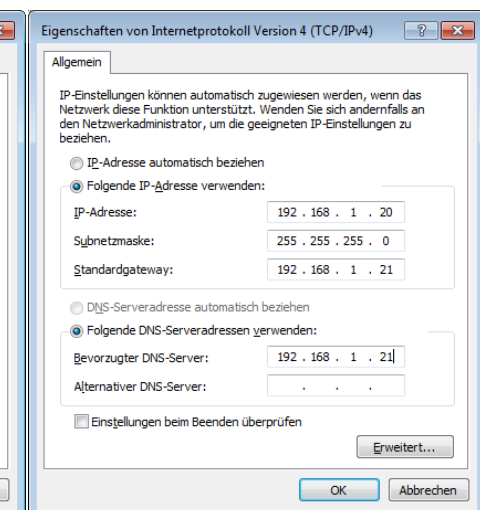

Figure 4
- Configuration example (figure 4) when no DHCP server is available (connection via switch or HUB).